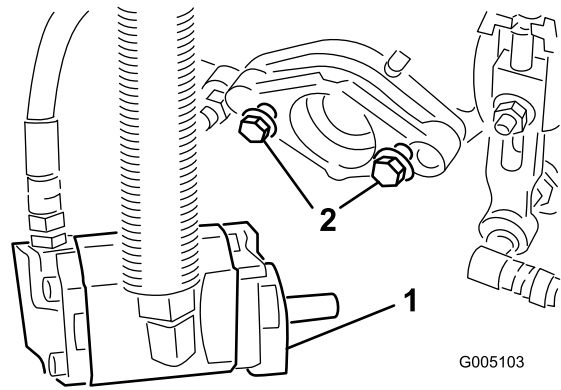

Figure 8
6. Ensure that there is approximately 13 mm (1/2 inch) of threads exposed on each reel drive motor mounting bolt (Figure 8).
9. Tighten the mounting bolts (Figure 8).